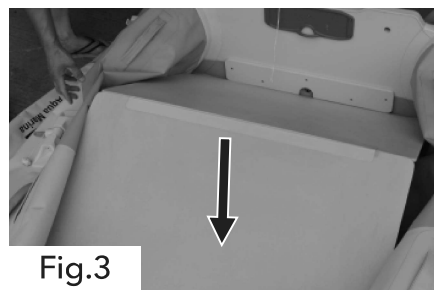

Fig.3
b. Lift the middle section a bit and create a roof-like structure. (Fig.3)